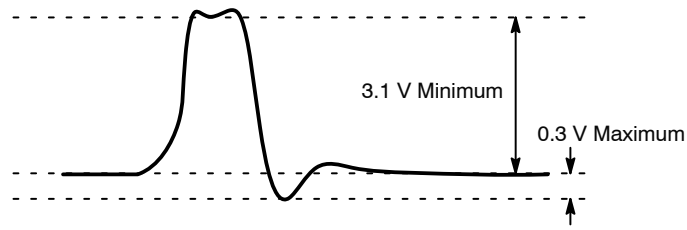

Figure 9. RG Clock Overshoot
21. Reset Clock Operation: The RG1, RG23 signals must be capacitive coupled into the image sensor with a 0.01 μF to 0.1 μF capacitor. The reset clock overshoot can be no greater than 0.3 V, as shown in Figure 9, below.